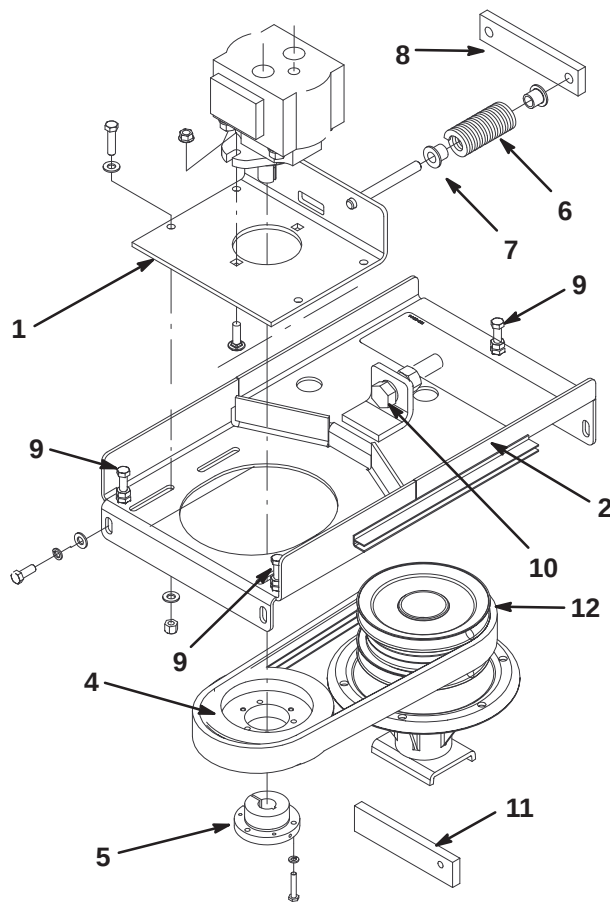

Figure 65
2. Loosen jam nut and relieve tension on springs with tensioner bolt (Fig. 65).
3. Loosen (4) capscrews securing slide plate to motor mount (Fig. 65).
4. Remove (4) capscrews securing motor mount to deck (Fig. 65).
6. Position motor mount onto deck while routing belt around drive pulley (Fig. 65). Be careful not to bend, twist, kink or damage flexible hydraulic lines.
7. Tighten (4) capscrews securing motor mount to deck.
8. Check the drive pulley (Fig. 65) height as follows:
- Slide the height gauge (Fig. 65) under drive pulley (not under hub).
- Equally tighten or loosen (3) adjusting screws (Fig. 65) until bottom of pulley rests on height gauge (approximately 1–1/2").
4. Loosen (4) capscrews securing slide plate to motor mount (Fig. 65).
5. Remove (4) capscrews securing motor mount to deck (Fig. 65).